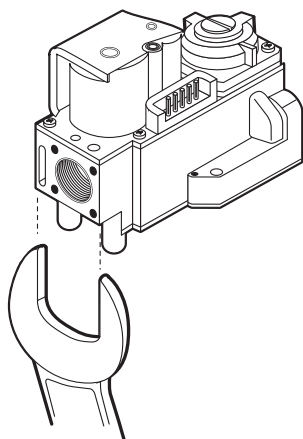

Fig. 5.
During tightening the main gas connection assure the gas control is secured against rotation by using the right spanner in order to ensure right mounting position and avoid excessive forces (see figure 5).
- 1 With 1/2" nut and flat sealing ring for pipe 14 mm (see fig 5.)
- 2 With 1/2" nut and flat sealing ring for pipe 15 mm (see fig 5.)
- ⑤ With 3/4" nut and flat sealing ring for pipe 15 mm (see fig 5.)
- ⑥ With 3/4" nut and flat sealing ring for pipe 18 mm (see fig 5.)